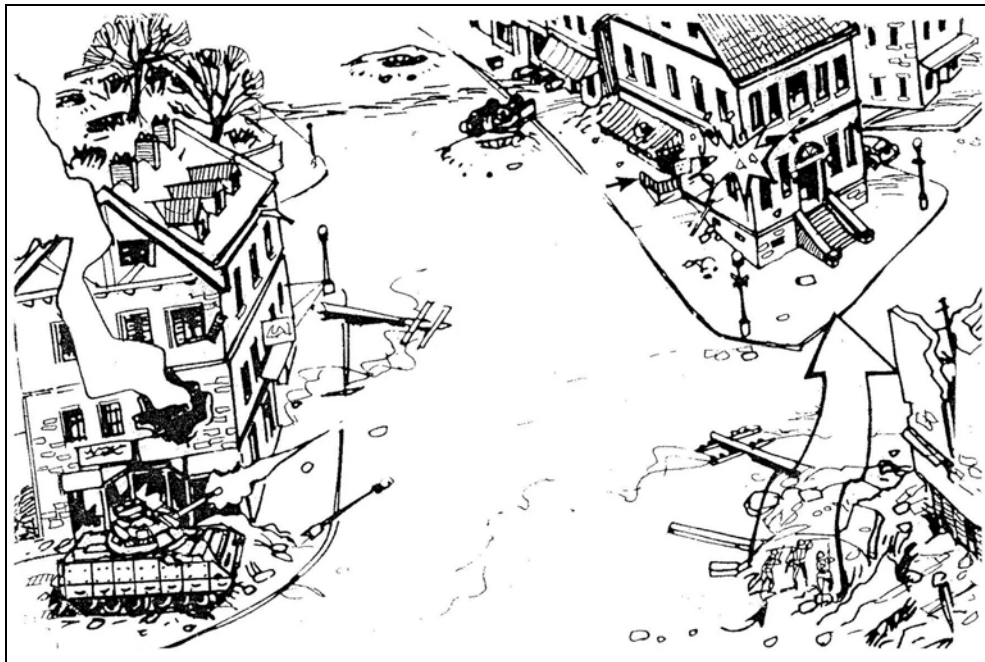

Figure E-5. Support by the 25-mm gun for the dismounted element.
(1) **Weapons.** The BFV's mounted element provides fire (with its 25-mm gun and 7.62-mm coax machine gun) for the dismounted element on the opposite side of the street. The 25-mm gun is the most effective weapon on the BFV for UO (Figure E-5).